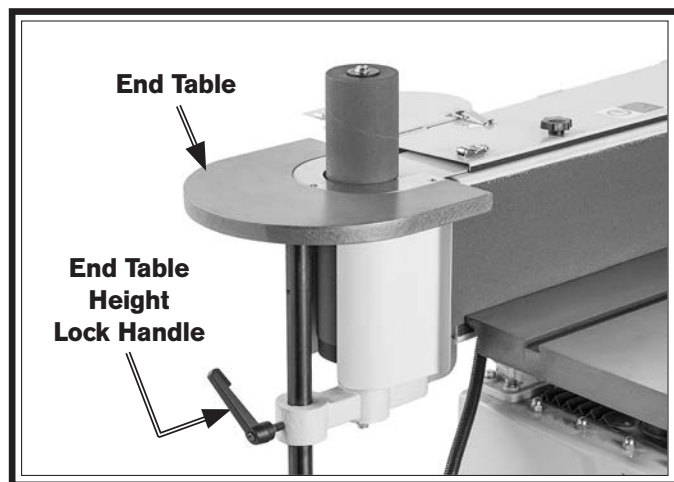

Figure 59. End table height components.
1. Loosen end table height lock handle (see **Figure 59**).
2. Tilt end table to desired height (see **Figure 59**).